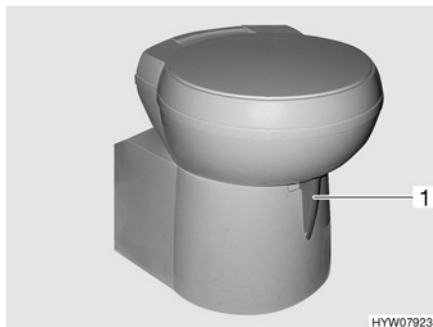

Fig. 114 Thetford toilet bowl (swivelling)
- Before flushing open the sliding trap of the Thetford toilet. To do this, push the slide lever (Fig. 114,1) in an anticlockwise direction.
- Turn the slide lever (Fig. 114,1) in a clockwise direction. The sliding trap is closed. To empty, the sliding trap in the Thetford toilet **must** be closed.